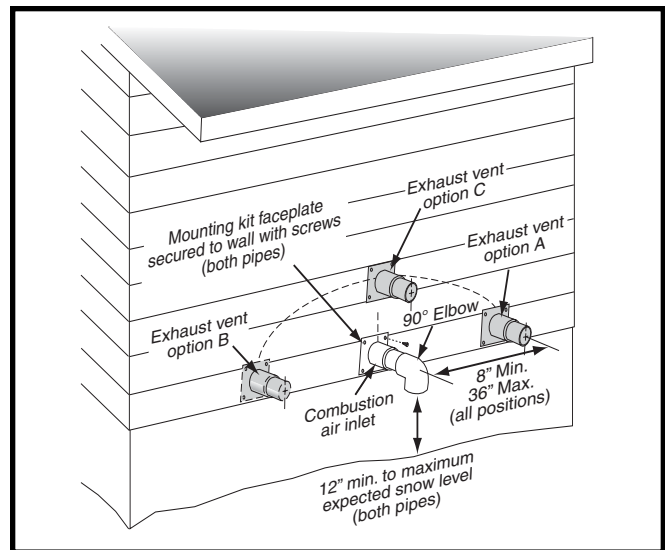
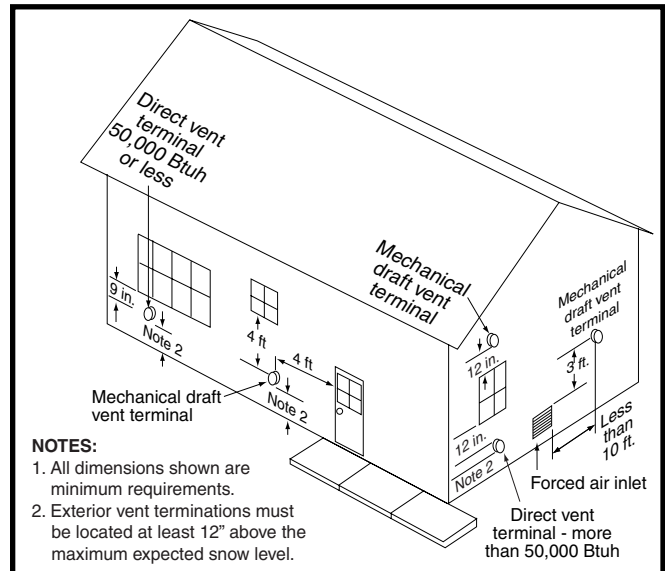
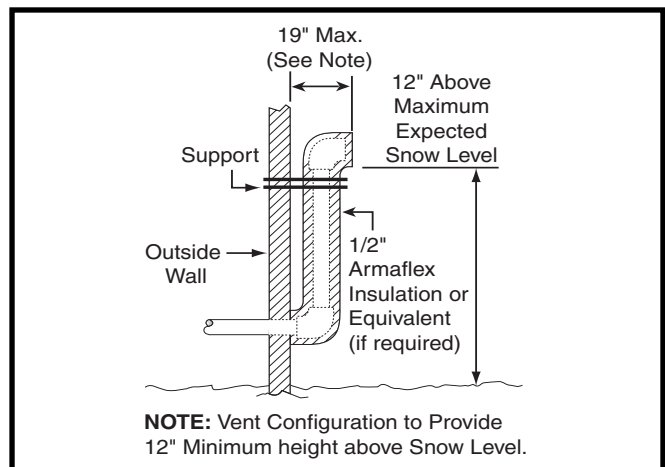

Figure 7. Inlet & Exhaust Pipe Clearances
Figure 8. Vent Locations
Figure 9. Alternate Horizontal Vent Installation
- Vent and combustion air intake terminations shall be installed as shown in Figure 7 & Figure 8 and in accordance with these instructions:
- All minimum clearances must be maintained to protect building materials from degradation by flue gases. See (Figure 8).
- When the vent pipe must exit an exterior wall close to the grade or expected snow level where it is not possible to obtain clearances shown in Figure 7, a riser may be provided as shown in Figure 9. Insulation is required to prevent freezing of this section of pipe. See Table 2 (page 11) for vent freezing protection.